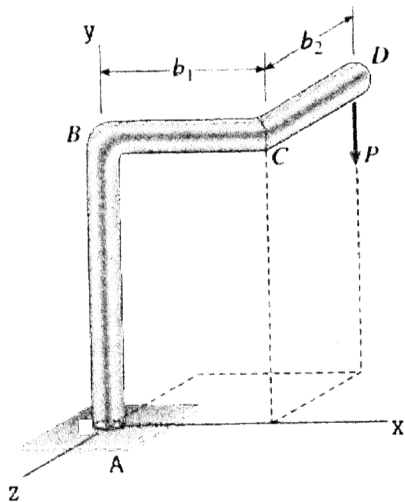

Fig. 2.
2. (20%) A bracket $ABCD$ having a hollow circular cross section consists of a vertical arm AB , a horizontal arm BC parallel to the x axis, and a horizontal arm CD parallel to the z axis (as Figure 2. shown). The arms BC and CD have lengths $b_1 = 4$ ft and $b_2 = 3$ ft, respectively. The outer and inner diameters of the bracket are $d_2 = 8.0$ in. and $d_1 = 7.0$ in. A vertical load $P = 2.00$ kips acts at point D . Determine the maximum tensile, compressive, and shear stresses in the bracket.